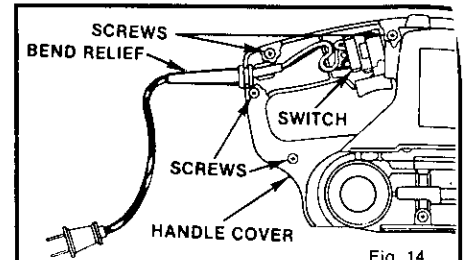

Fig. 14
1. Remove handle cover and screws as described on Page 7. Note the locations of all wiring in the handle and how each connection is made to the cord. Connections and wiring position must be identical when installing the new cord. See Figure 14.
5. Arrange the wiring in the handle so that it will not be pinched when handle cover and screws are replaced. Position the switch in place. See Figure 14.